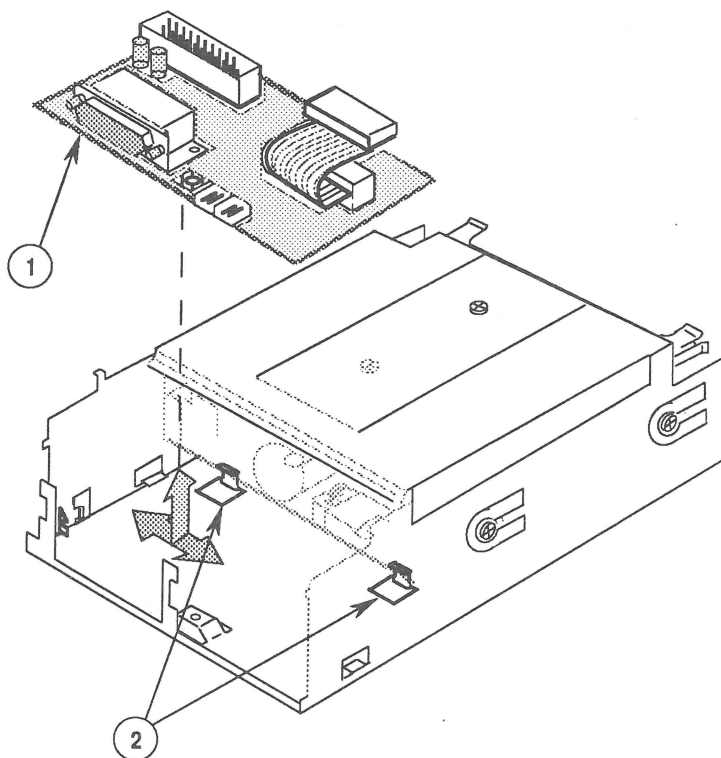

FIGURE 14
6. Slide the daisy chain interface board (Figure 14, #1) to the right and remove it from the outer metal shield.
1. Tuck the back edge of the daisy chain interface board (Figure 14, #1) under the holding tabs (Figure 14, #2) on the outer metal shield.